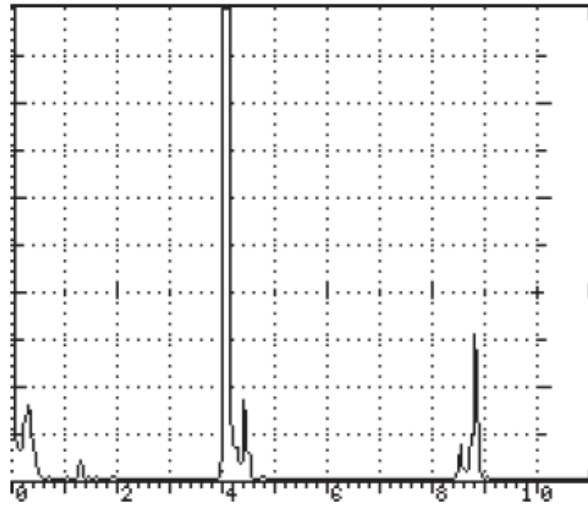

Figure 5-37: IIW Type 1 Block Echoes
IIW Type 1 Block: Line 4 (4 inches). See first echo in *Figure 5-37*.
- IIW Type 1: Line 9 (9 inch). See second echo in **Figure 5-37**.